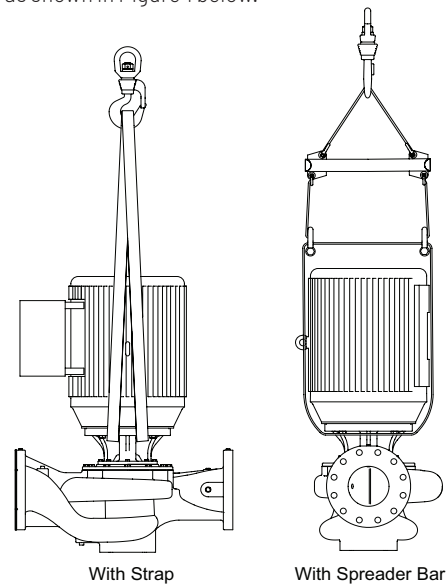

Figure 1
1. Place lifting straps/slides on each side of shaft through the motor bracket as shown in Figure 1 below.
2. Use spreader bar (see Figure 1 shown above) in between the slings if necessary. This could be helpful for protecting the motor fan cover while lifting.